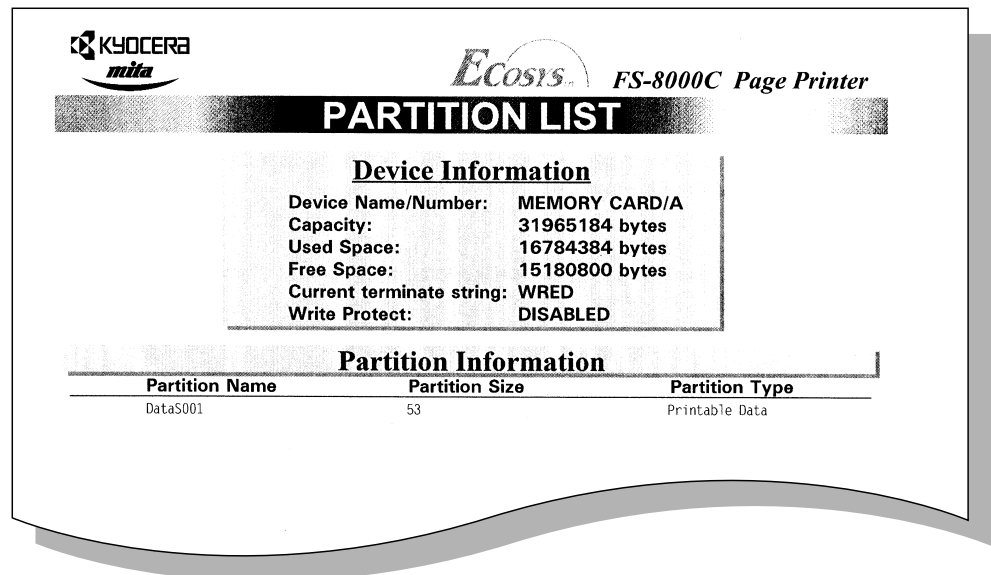

Figure 3-13
- 6** To print a Partition List, press the **ENTER** key. A Partition List is printed as exemplified below. Sample list of fonts are shown in Figure 3-13 below.